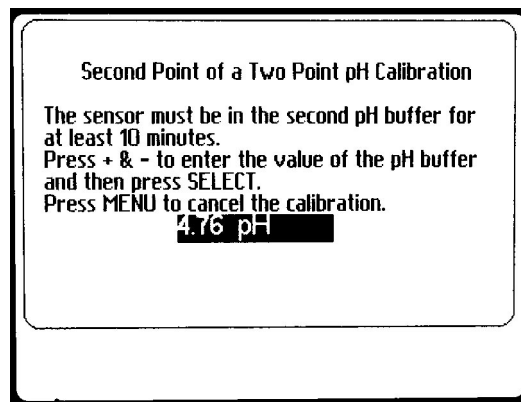

Figure 40 - Second Point of a Two Point pH Calibration
7. From the SECOND POINT OF A TWO POINT pH CALIBRATION screen (Figure 40), use the + or – keys to change the pH value to agree with the buffer value. Press SELECT when done. The PT2 will perform the calibration and return to the previous menu.